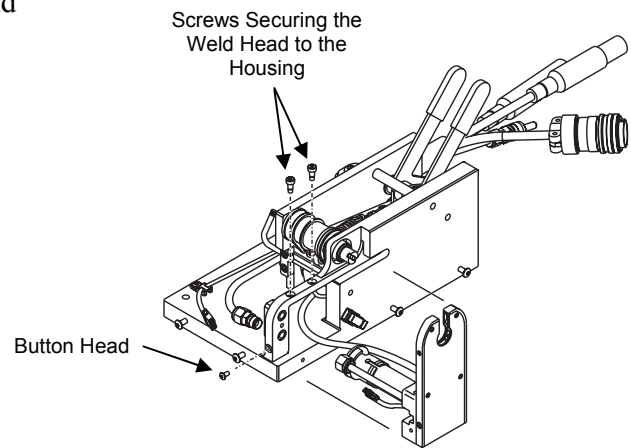

Figure 43 *Removing the Weld Head Assembly*
14. Remove the two locating shoulder screws and button head screw to remove the weld head assembly. See Figure 43.